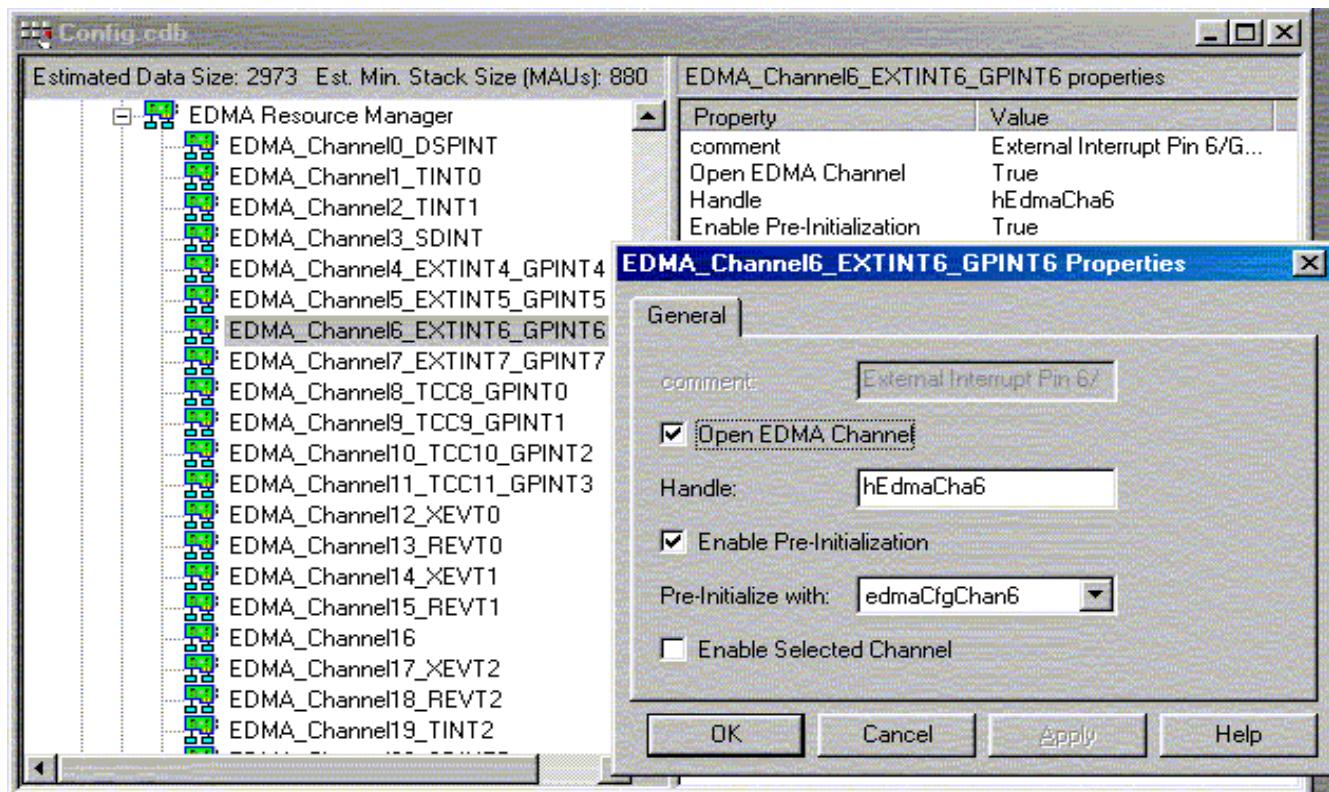

Figure 21. EDMA Chan6 EXTINT6 Properties Tab
18. The configuration object now needs to be mapped into the appropriate resource. In the EDMA Resource Manager, right click on EDMA_Channel6_EXTINT6_GPINT6 and select properties. In the General tab, select the options shown in Figure 21. Create hEdmaCha6 handle and preinitialize EDMA channel 6 registers with edmaCtgChan6. Channel initialization completes before entering the main() function. In the main function the channel needs to be enabled.